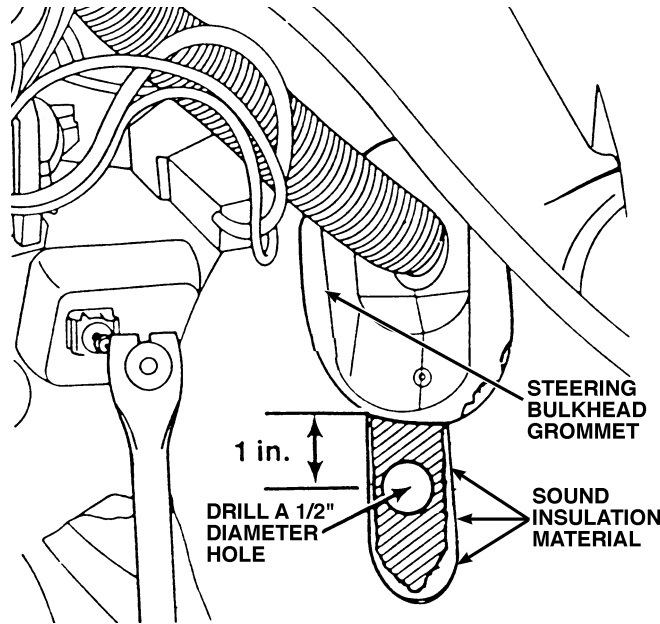

Figure 5.
15. Remove a small amount of sound insulation from the area directly below the steering bulkhead grommet (Figure 5).